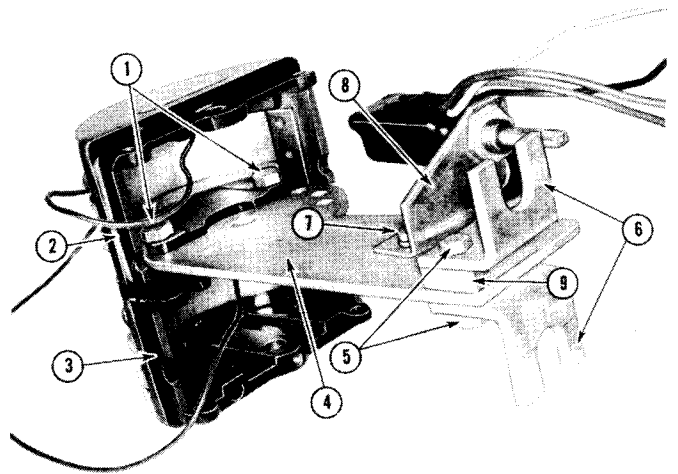

Figure 9-10
Position control lever brackets (2, 3, Fig. 9-10), adapter plate (4) and install and tighten cap screws (1). Position safety switch bracket (8) on adapter plate and install and tighten cap screw and nuts (7). Position cable brackets (6), spacer (9) on adapter plate (4). Install and tighten cap screws and nuts (5).